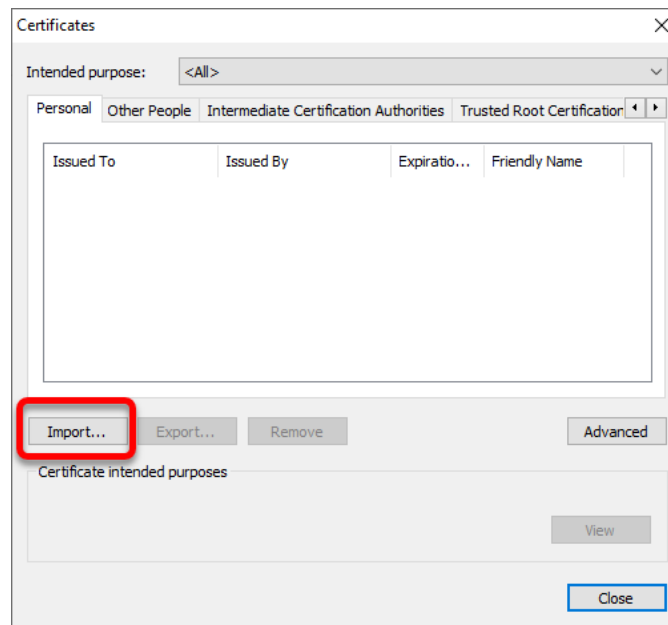

Figure 73: Import Certificate into Browser
3. On the **Certificates** dialog box, click **Import** (Figure 73).